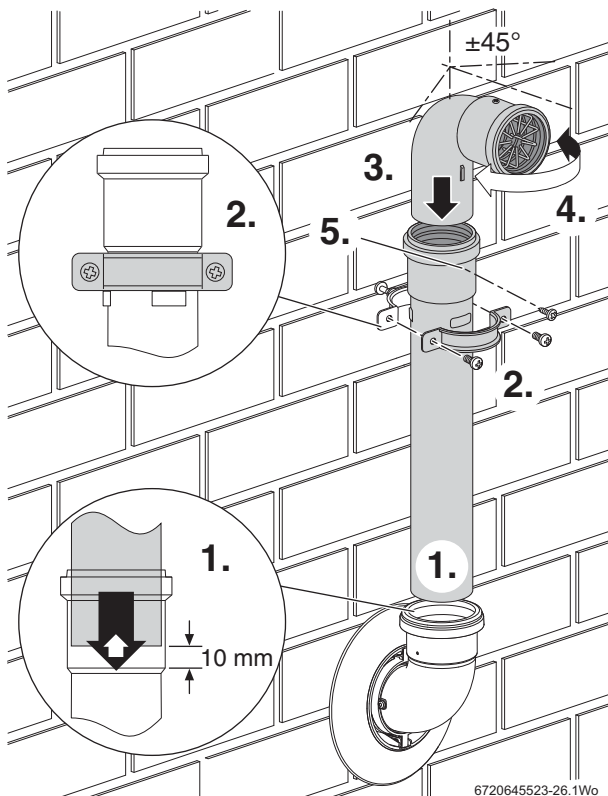
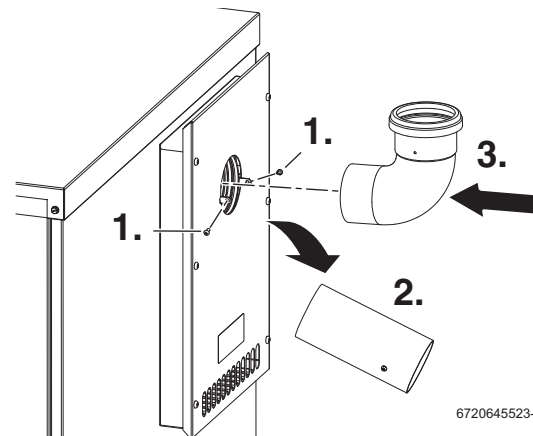

Fig. 49 Plume management installation
Fig. 50 Fitting the terminal bend
3. Mark the position for the wall clamp so that it coincides with the extension tube just below the top fitting (Refer to figure 49 point 2). Drill a hole to suit the wall plug and fit the wall plug.
- Refer to figure 49 plume management installation.
▶ Fit a flue damper into the plume management for 18/25 wall mounted Danesmoor boiler only. Fit the damper (1) as shown in the figure below, ensuring the correct orientation of the damper. The rubber seal is inserted into the terminal end.
▶ Fit a flue damper into the plume management for 18/25 wall mounted Danesmoor boiler only. Fit the damper (1) as shown in figure 49, ensuring the correct orientation of the damper. The rubber seal is inserted into the extension tube. Then assemble the plume management system as shown in figure 50.